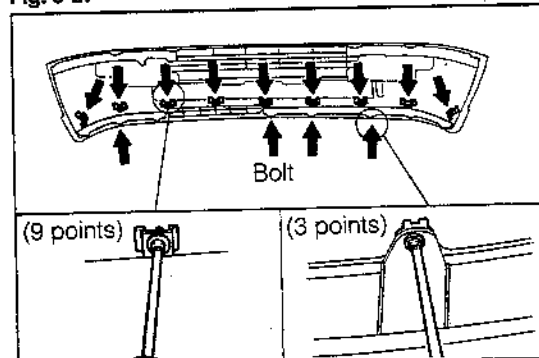

Fig. 9-28
1. Install the front spoiler cover to the front bumper subassembly. (GTti grade vehicle) (See Fig. 9-28.)